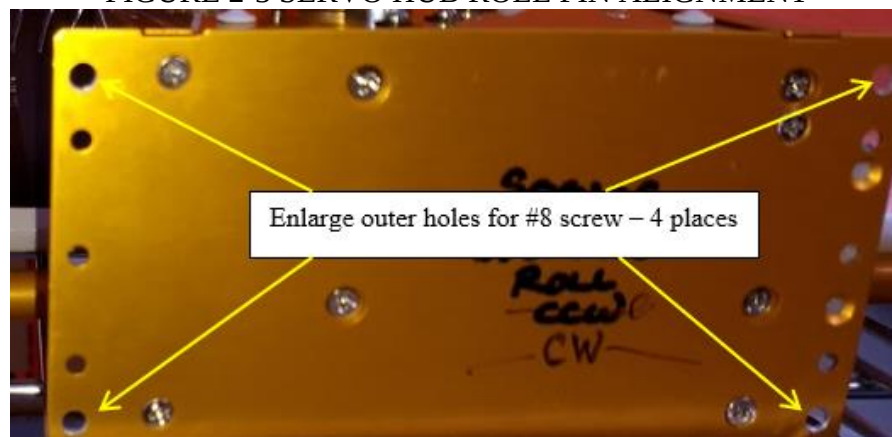

Figure 2-4 BASEPLATE HOLES TO BE ENLARGED FOR #8 SCREW
1. Enlarge the 4 corner mounting holes on both servo baseplates using a #16 drill bit or equivalent. Refer to Figure 2-4.